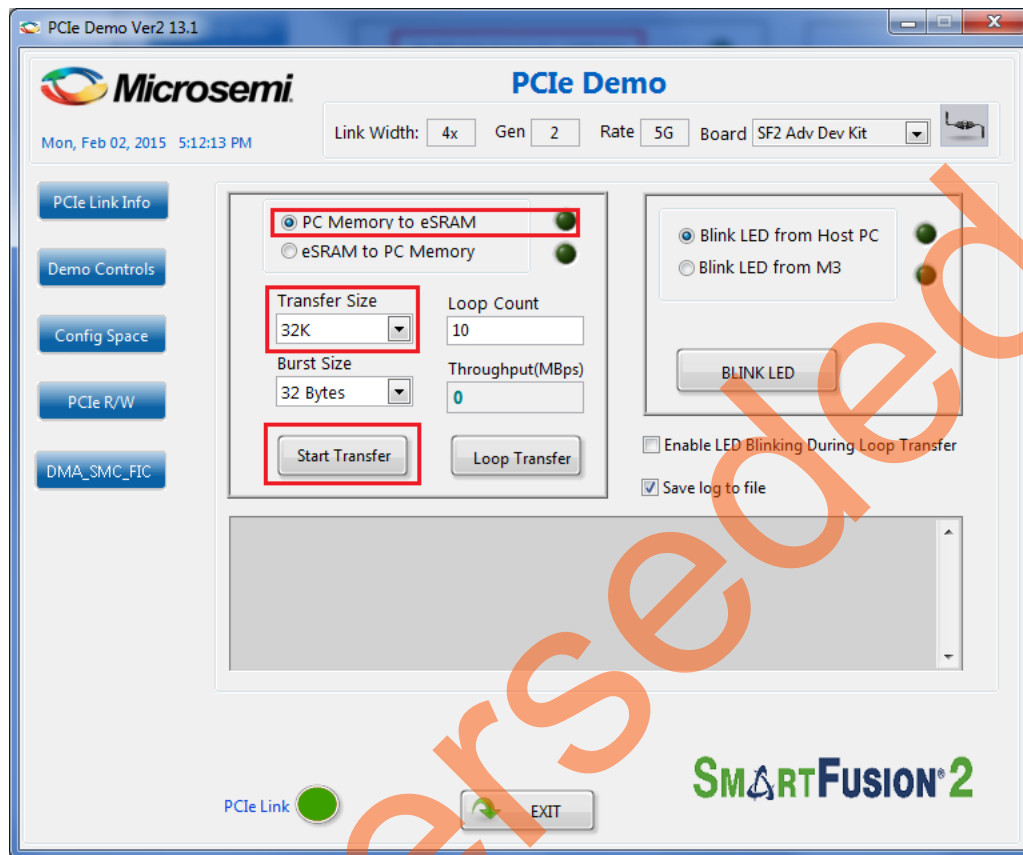

Figure 25 • DMA Transactions between Host PC Memory and eSRAM
17. Click **Start Transfer**. Figure 25 shows the DMA Transactions between the Host PC memory and eSRAM.